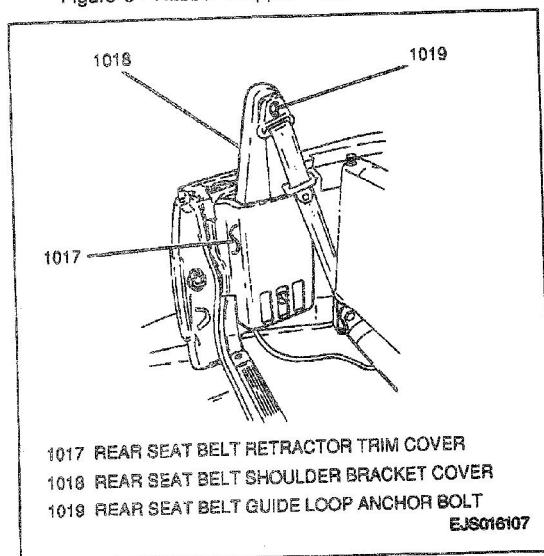

Figure 6—Rear Seat Belt Guide Loop Anchor Bolt Location—Two - Door Models
3. Rear seat belt guide loop anchor bolt (Figure 6).
2. Rear seat belt guide loop anchor bolt (Figure 6).